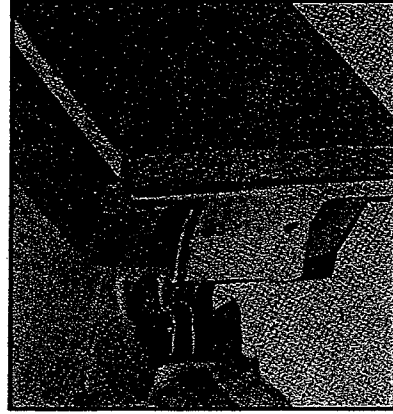

Fig. 4
3. Press rear clip toward base and slip free end of abrasive sheet under clamp as shown in Fig. 4.